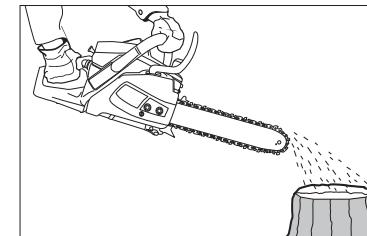

Fig. 13
- Before you start, check the oil supply: switch on the chainsaw and hold it over suitable bedding. If it is sufficiently lubricated, a light trail of dripping oil will form (fig. 13).